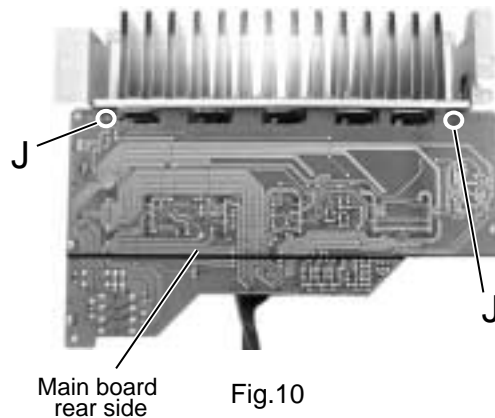

Fig.10
■ Removing the Heat sink (See Fig.10 to 11)